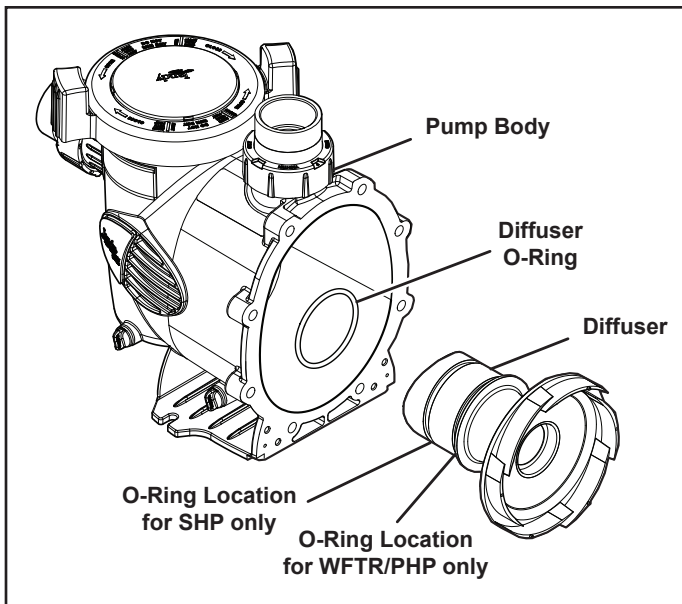

Figure 5. Location of Diffuser O-ring
7. Make sure the diffuser o-ring, o-ring groove, and o-ring seal area are clean and free of debris, which could cause a leak. If you removed the diffuser o-ring, make sure you install it into the proper groove, see Figure 5. If grease is used to retain the o-ring, it **must** be silicone based. **Do not** use petroleum-based grease. It **will** destroy the o-ring.
8. Slide the diffuser into the mating hole in the pump body. While supporting the motor, start two (2) screws on opposite sides. This will hold the motor in position while you start the other six (6) screws.
9. Tighten the screws lightly in a crossing “X” pattern using a 9/16" wrench starting with the inner (middle) four (4), then the outer (top and bottom) four (4) to draw the backplate to the body in an even manner. Once all the screws are snug, torque in the same order to 18 foot-pounds.